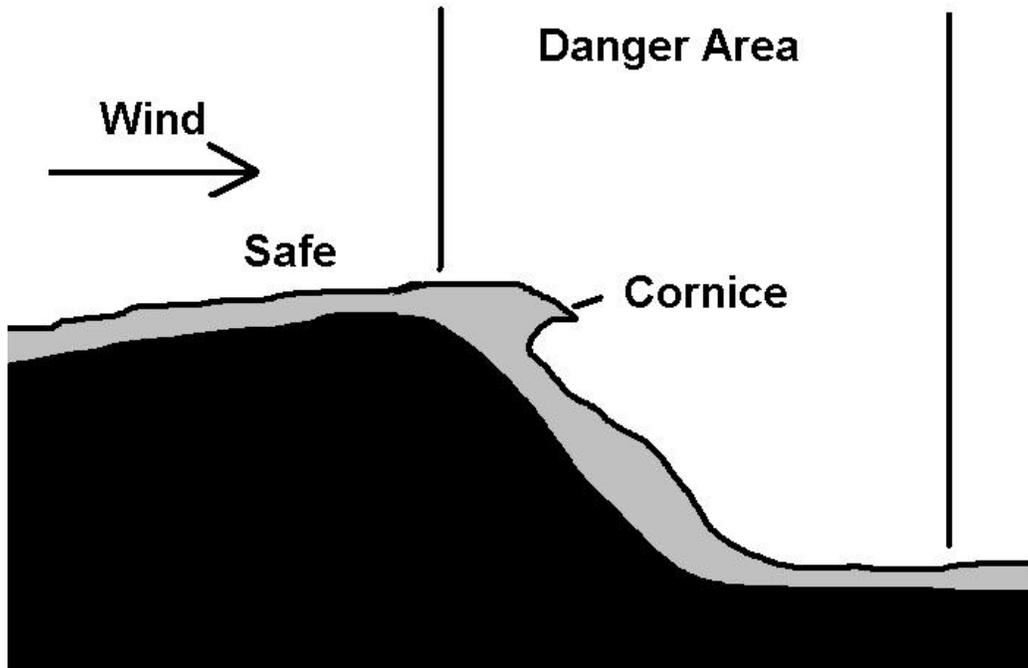

Figure 1.1 Cornice Construction
f. Corniced ridges- (Figure 1.1) Cornices are formed from wind carrying snow over a ridgeline and depositing the snow on the leeward edges. The overhanging shape is made from the swirling movement of the airflow as it moves over the edge. A cornice can break causing a severe stress on the downslope snowpack. Slab avalanches are sometimes caused by cornice breaks.